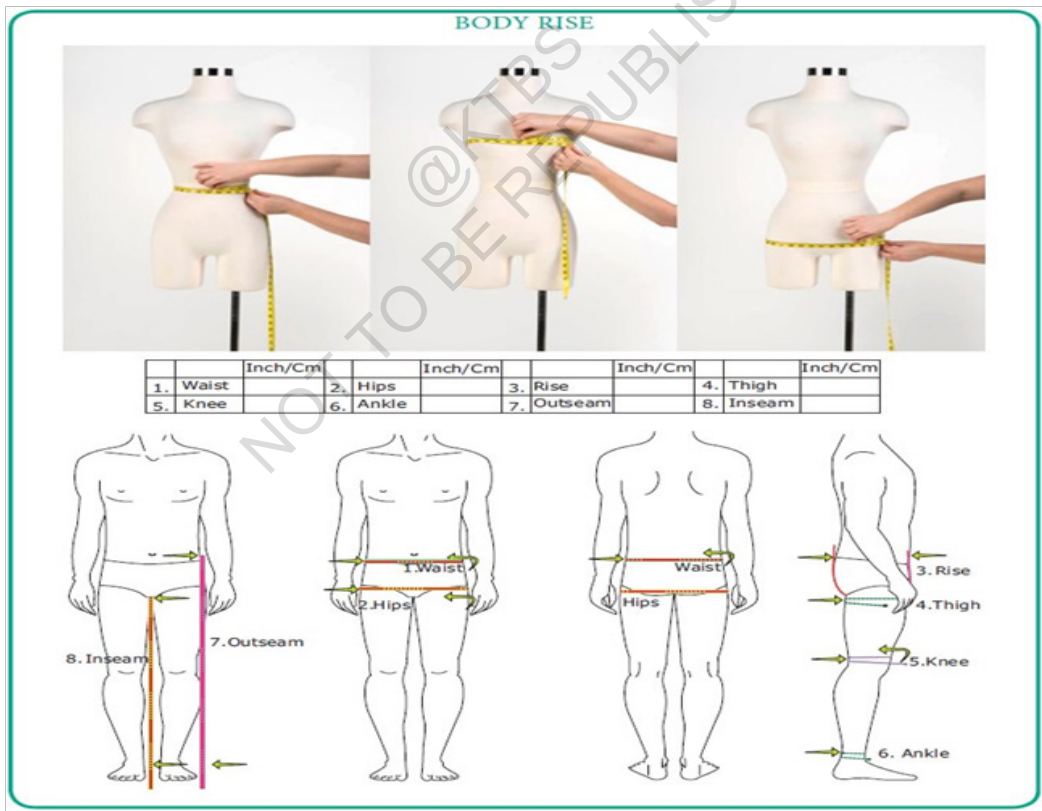

fig.3.3: Body Measurement with Body Rise
20. Skirt Length: Measure from waist as per the style of the garment. For e.g.: knee length skirt = measure from waist to knee length; Full length skirt = Measure from hip to toe length (Fig 3.3)